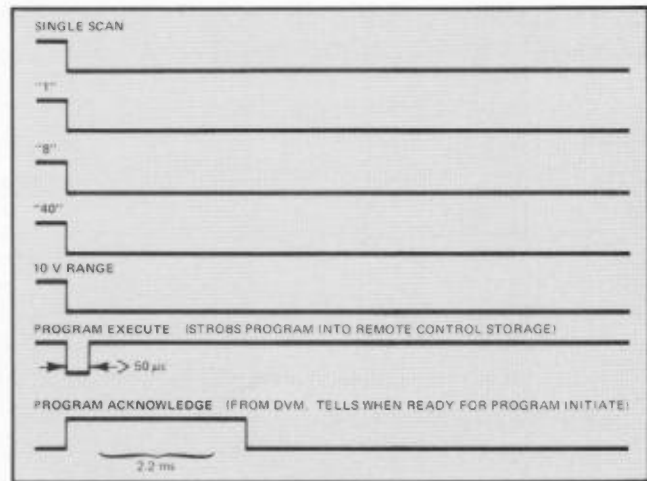

FIGURE 6
- PROGRAM EXECUTE strobes a set of program instructions into the remote control storage register. PROGRAM ACKNOWLEDGE indicates when programming is complete and when the Scanner is ready to begin a scan sequence. Refer to Figure 6 for an example.